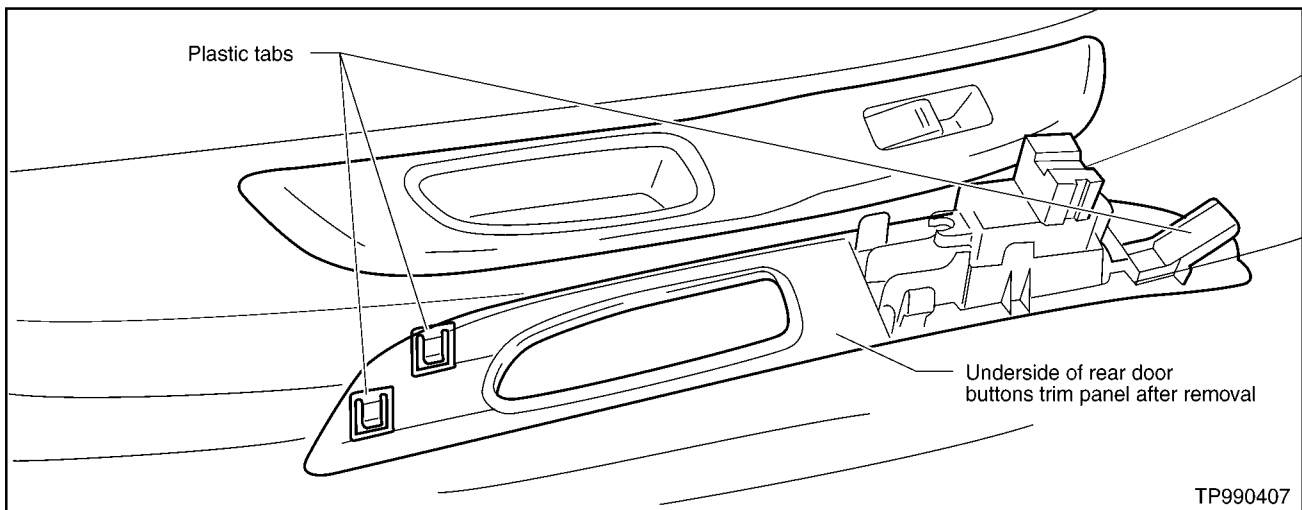

Figure 18
C. Remove the panel (see Figure 18 for a view of the panel when removed).